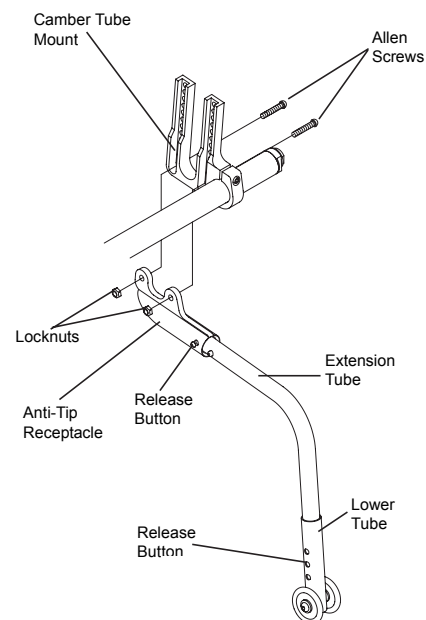

Figure 125
1. Align the two holes in the anti-tip receptacle with the bottom two holes in the camber tube mount and with the anti-tip receiver positioned under the camber tube and facing rearward. See Figure 125.